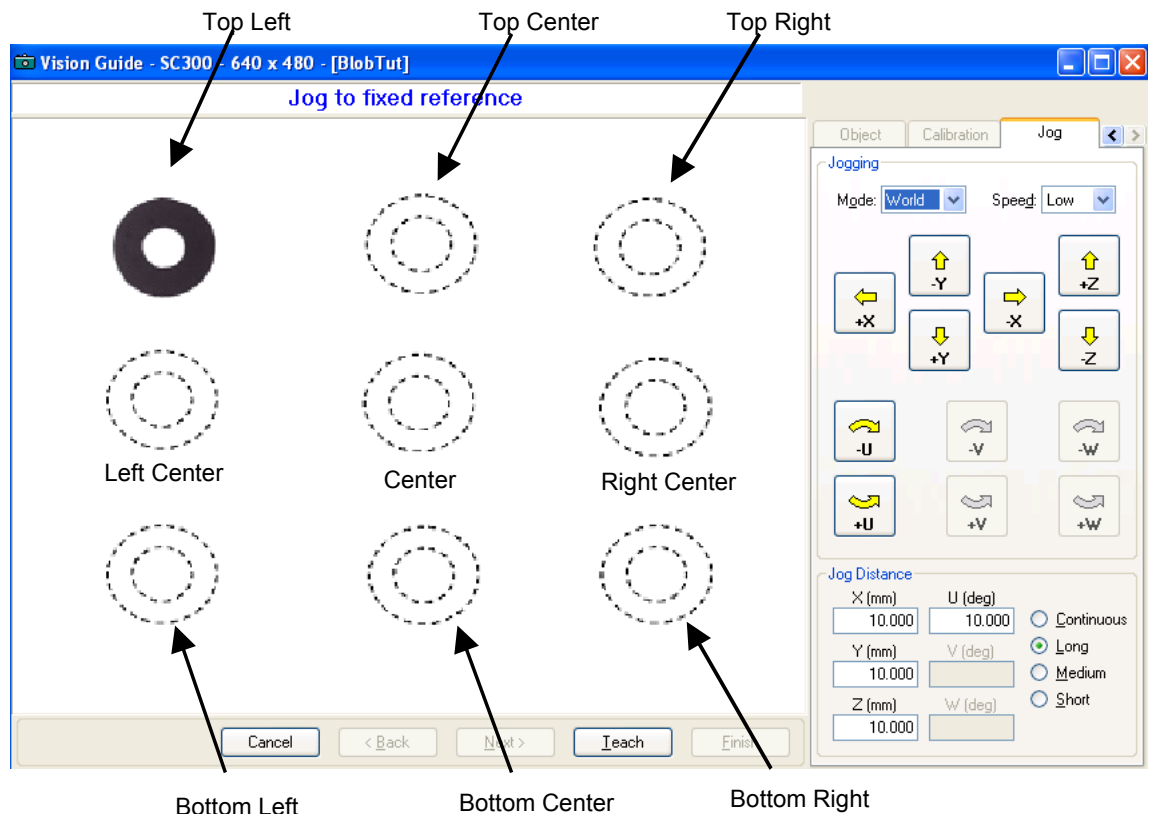

Figure 14: Teaching camera positions for calibration
- (3) Notice the message shown at the top of the window that says "Jog to fixed reference". This means to jog the robot so that the gripper (rod) is centered on the calibration target part (in this case the washer). At this point you can ignore the video display, since we are aligning the robot gripper with the calibration target. Go ahead and jog the robot so that the gripper is positioned at the center of the washer. The positioning of this is very important so you will need to jog the robot down close to the washer to get a good alignment.
- (4) Once you have the robot gripper positioned at the center of the washer, click the Teach button located at the bottom of the Vision Guide window.
- (5) Jog the Z-axis up high enough to keep the gripper away from the work surface and any possibility to bumping into other objects during calibration because the robot gripper was too low. When we teach each of the 9 calibration points this Z height will be used for each.
- (6) You will now see a message at the top of the Vision Guide window that requests that you "Jog to top left camera position", as shown in Figure 14. This means to jog the robot (and camera) to a position where the washer can be seen in the upper left corner of the image display of the Vision Guide window. Figure 14 shows the approximate position where you should jog the robot. As you can see in Figure 14, this is the 1st of 9 camera positions required for calibration.
- (7) **Teaching the 1st Camera Position:** Jog the robot so that the camera is positioned where you can see the washer in the top left corner position of the image display of the Vision Guide window. Refer to the "top left" position of the washer in Figure 14.
- (8) Click the Teach button on the Vision Guide window.
- (9) **Teaching the 2nd Camera Position:** Jog the robot to the right of the 1st camera position so that the camera is positioned where you can see the washer in the top center position of the image display of the Vision Guide window. Refer to the "top center" position of the washer in Figure 14.
- (10) Click the Teach button on the Vision Guide window.
- (11) **Teaching the 3rd Camera Position:** Jog the robot to the right of the 2nd camera position so that the camera is positioned where you can see the washer in the top right position of the image display of the Vision Guide window. Refer to the "top right" position of the washer in Figure 14.
- (12) Click the Teach button on the Vision Guide window.
- (13) **Teaching the 4th Camera Position:** Jog the robot down from the 3rd camera position so that the camera is positioned where you can see the washer in the center right position of the image display of the Vision Guide window. This position will be below the 3rd camera position starting a zigzag pattern when you refer to all the camera positions in order. Refer to the "right center" position of the washer in Figure 14.
- (14) Click the Teach button on the Vision Guide window.
- (15) **Teaching the 5th - 9th Camera Positions:** Continue jogging the robot and teaching points as instructed at the bottom of the Vision Guide window for each of the 5th through 9th camera positions. The Vision Guide window will display which position to move to for each camera position. Camera positions 5-9 are described below:
- (16) After the last camera position is taught a dialog will appear which says "All calibration points are now taught". Click the Finish button to continue.